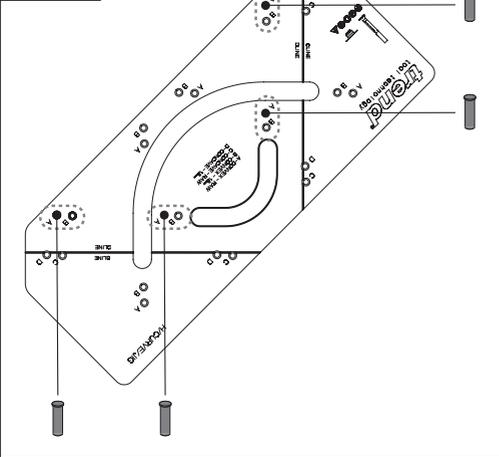

Fig. 6b
- For an Edged finish, insert location pins into Post Convex Pin Holes marked "B" (Fig. 6b)